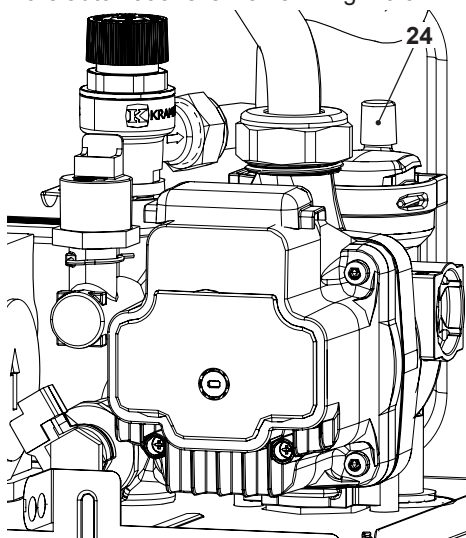

Fig. 10.9
- To make draining easier, lift the plug 24 of the automatic relief valve in Fig. 10.9.